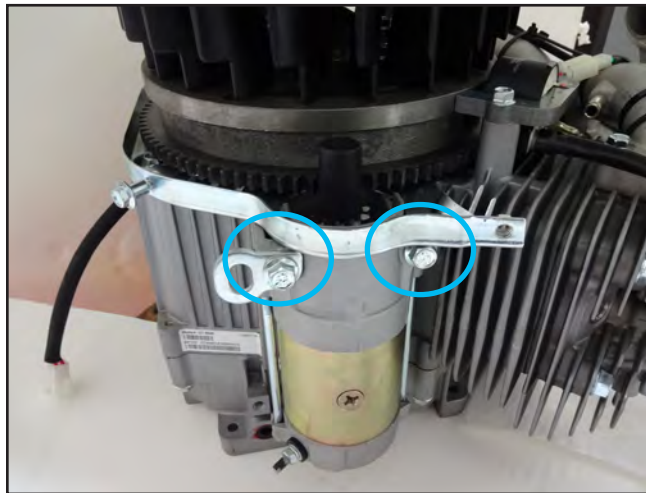

Figure 34
1. Install the electric starter with two mounting bolts (Figure 34).